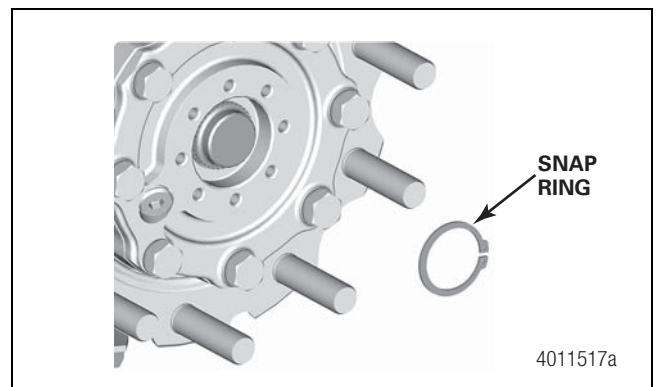

Figure 4.6
4. Remove the snap ring from the end of the axle shaft. Figure 4.6.